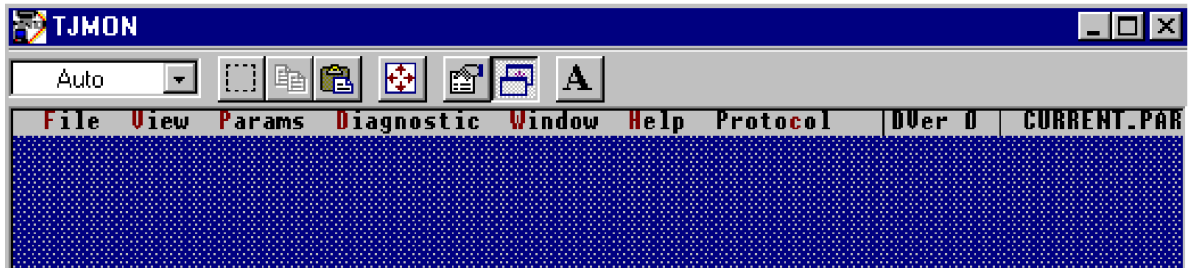

Figure 3-2. General TJMON Display
5. Go to the Tjmon.exe file and press Enter or double click. The TJMON display will appear on the screen, as shown in Figure 3-2.
If you have opened the Tjmon.exe file, the TJMON display will appear on your screen (see Figure 3-2). The menu bar on the TJMON display provides a set of commands and settings to allow monitoring and configuring the TecJet 50 gas control valve. Each menu contains several options that are commands, or links to further menus.